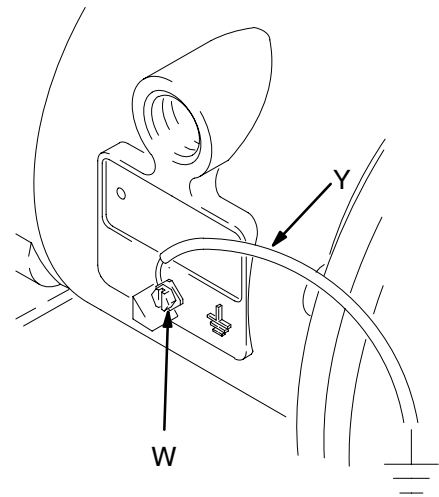

Fig. 1
*Polypropylene and PVDF are **not** conductive.* Attaching the ground wire to the grounding lug grounds only the air motor. When pumping conductive flammable fluids, **always** ground the entire fluid system by making sure the fluid has an electrical path to a true earth ground. See Fig. 1.
- **Pump:** Connect a ground wire and clamp as shown in Fig. 1. Loosen the grounding screw (W). Insert one end of a 12 ga (1.5 mm2) minimum ground wire (Y) behind the grounding screw and tighten the screw securely. Connect the clamp end of the ground wire to a true earth ground. Order Part No. 237569 Ground Wire and Clamp.